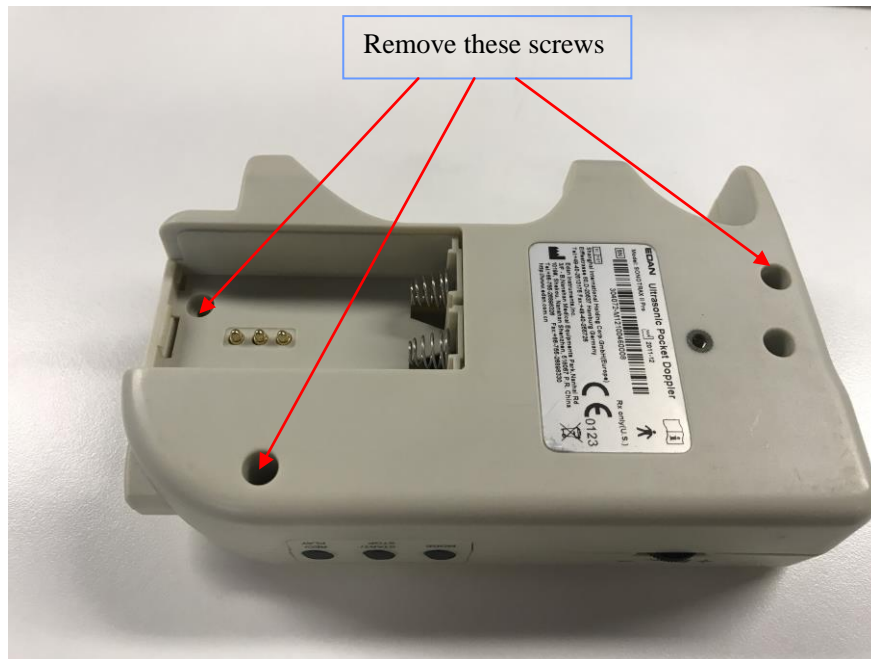

Figure 4-9 Labels and screws need to be removed
- 3) Remove the three screws as shown in figure 4-9.